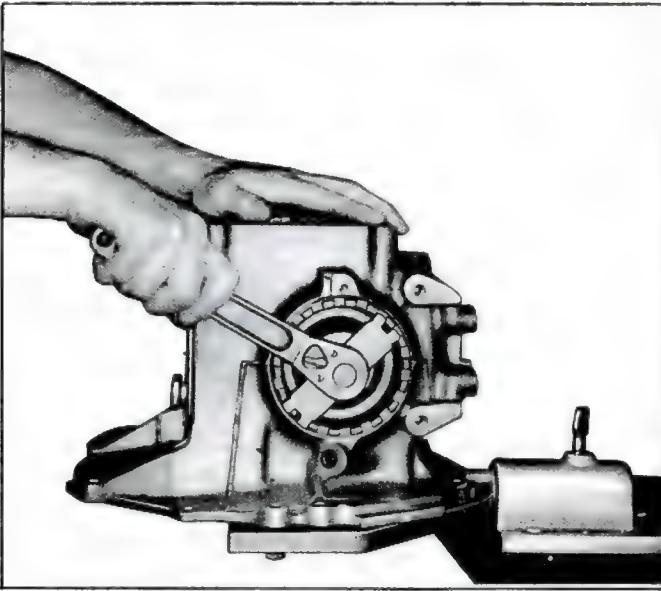

Fig. 46—Tightening Side Bearing Adjusting Sleeve with J-8342
1. Tighten right side bearing adjusting sleeve while rocking the differential assembly with one hand until there is zero backlash between the ring gear and pinion (fig. 46). Mark this point with a crayon or pencil, then back off adjusting sleeve three to four full notches to eliminate "O" ring wind-up. Retighten adjusting sleeve to one notch loose from the zero backlash crayon or pencil mark.